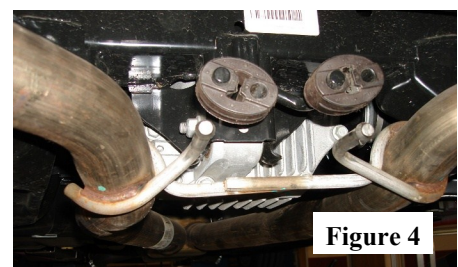

Figure 4
5. Using a muffler stand or an additional person to hold the rear muffler into position, remove the hangers from the rubber isolators (figure 4) and at each rear muffler.